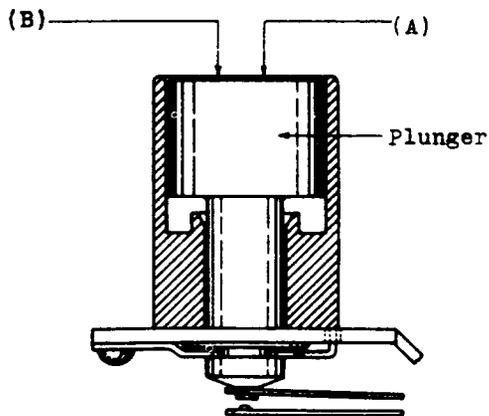

Fig. 5
(a) 520 Type Keys except the 520-F, J and K Keys - Fig. 5 (A) - The pressure required to move the plunger out of the normal position shall be: